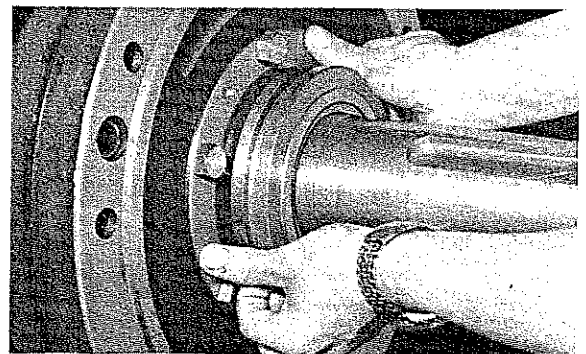

Fig. 72 Removing seal collar
- b. When the locknuts have been removed, pull out the shaft seal collar (9) through the groove on the outer circumference as shown in Fig. 72. Never risk gouging it by putting a screwdriver between the seal collar and the thrust bearing (13) even when it will not part easily.